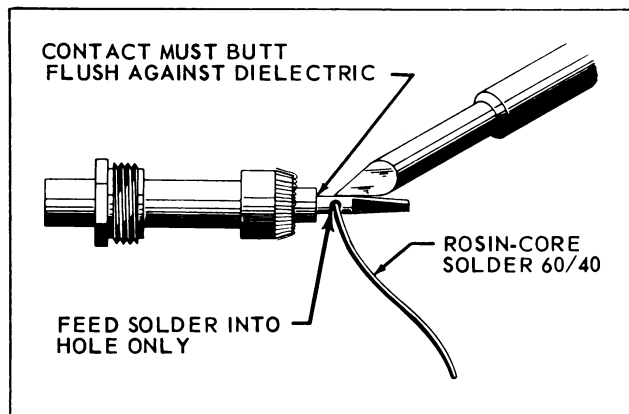

Figure 4-12. Soldering Contact to Coaxial Cable
4-23. Solder contacts (male or female) to center conductor with clean, well tinned, soldering iron using 60/40 tin-lead, rosin-core solder. See Figure 4-12. Do not apply heat too long as this will swell the dielectric and make it difficult to insert into the body shell. After soldering, if there is excess flux on outside of contact or dielectric, remove it with denatured alcohol. Do not allow solder to flow over outside of contact.
j. Slip contact over center conductor so that contact butts flush against dielectric. Solder using a clean, well tinned, soldering iron: contact must still be flush against dielectric after solder has cooled; if it is not, remake the joint. See Figure 4-12.